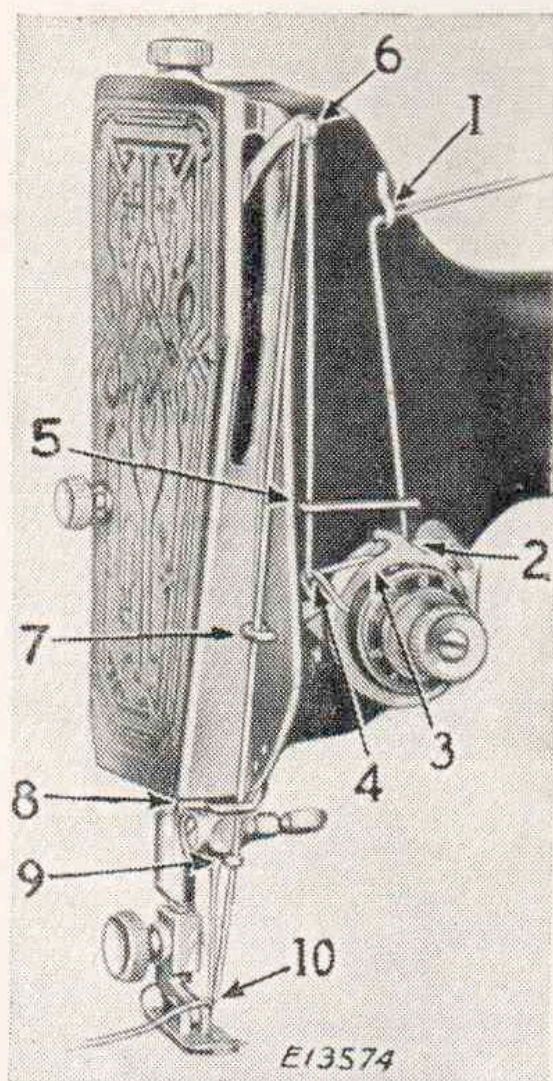
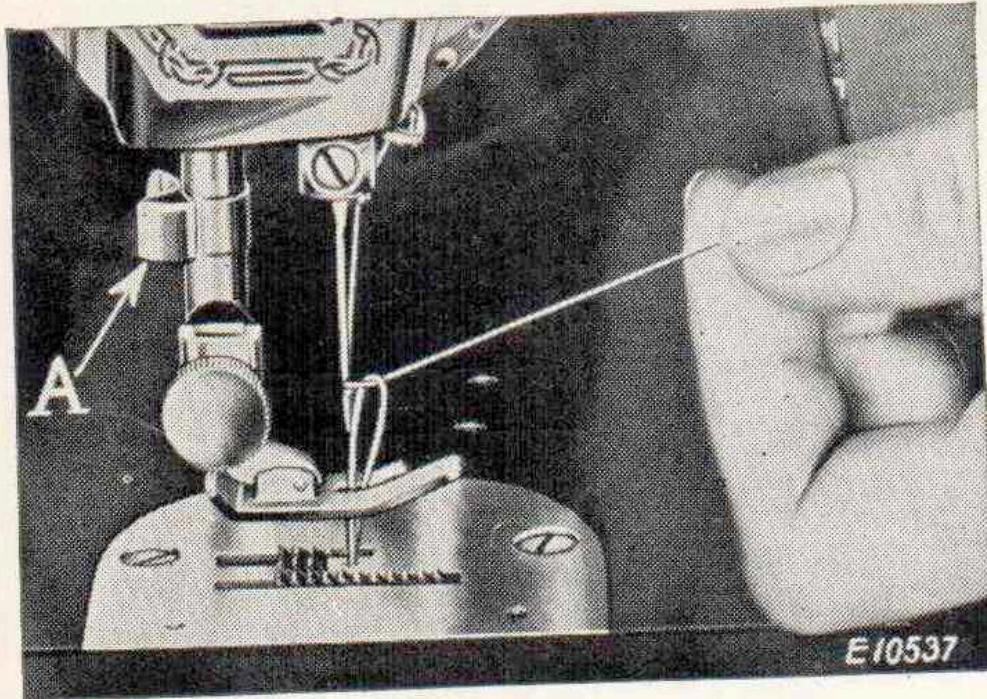

Fig. 14.
Fig. 15.
Turn the balance wheel towards you until the take-up lever (6, Fig. 14) is at its highest point. Raise the bed extension (B) as far as it will go, and with the thumb and forefinger of the left hand, open the latch (A) and withdraw the bobbin case.
Upper Threading (See Fig. 14).
Turn the balance wheel over towards you for the needle to move down and up again to its highest. Pull the thread you are holding, and the under thread will be brought up with it through the hole in the throat plate, as shown in Fig. 15. Place both ends of thread under and to the back of the presser foot.
Stop the machine with the thread take-up lever (6, Fig. 14) at its highest point and raise the presser foot. Draw the material back and to the left and sever the threads by passing them over the thread cutter (A, Fig. 15). Leave the ends of the threads a few inches long under and at the back of the presser foot.